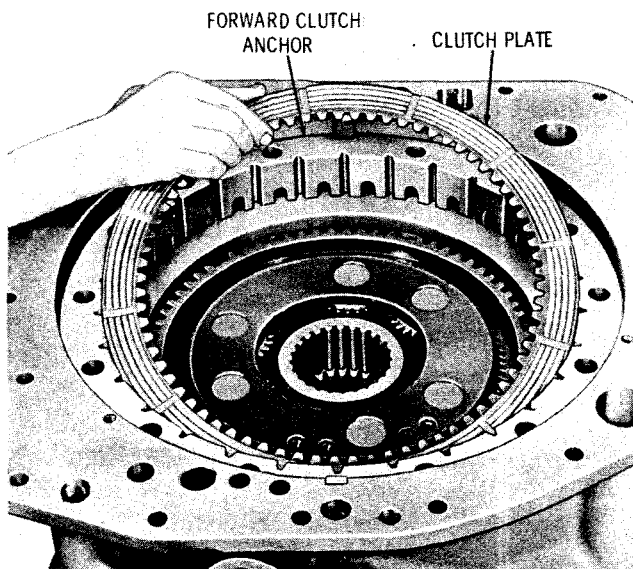

Fig. 7-21. Installing forward clutch plate before installation of ring gear (5630 models)
(4) Install the forward clutch anchor, broad flat side upward (fig. 7-21). Beginning with an internal-splined clutch plate, and alternating with external-splined plates, install two plates of each type.